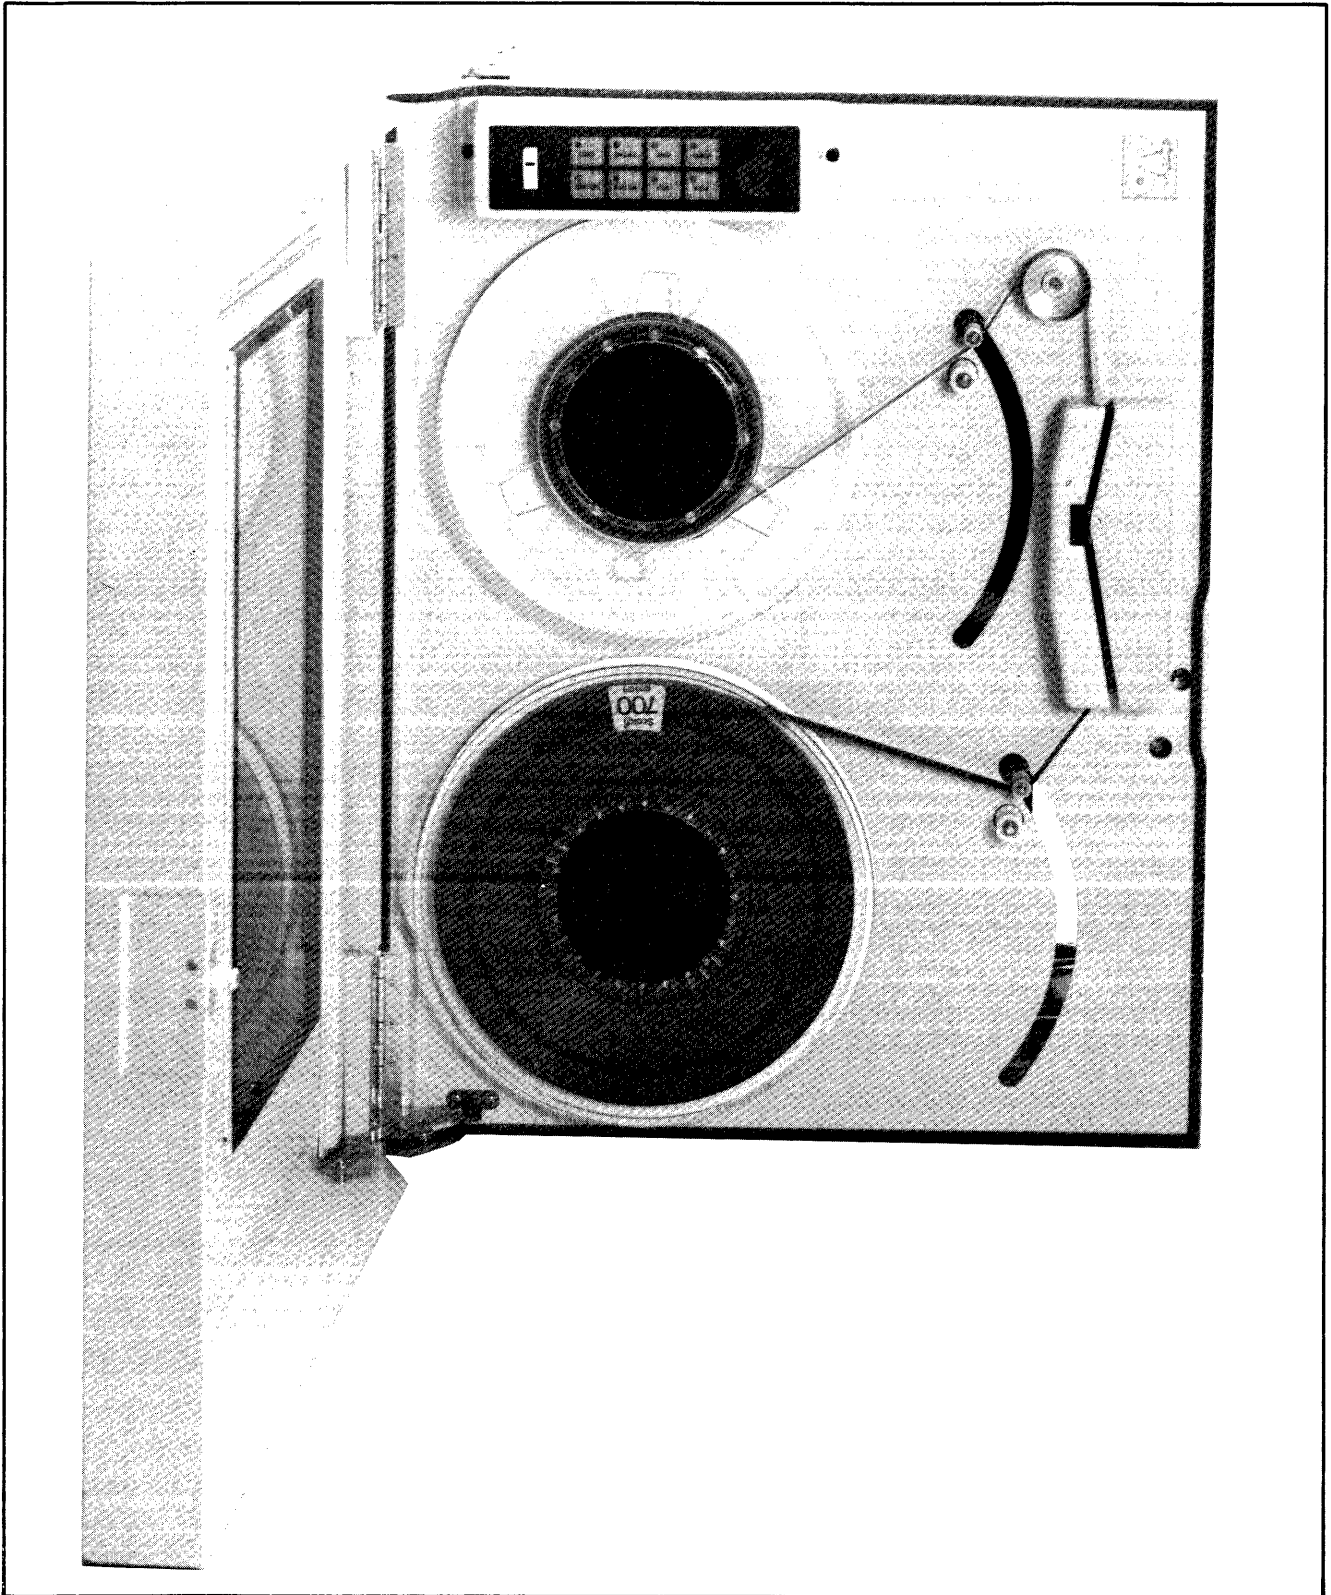

FIGURE 3-2. MAGNETIC TAPE PATH DURING THREADING
When loading tape on the Model 1050, the supply reel is mounted on the bottom hub, and the upper hub serves as the take-up reel. The maximum supply reel size is 10.5 inches in diameter. Recording can be accomplished only when the write-enable ring is installed in the supply reel. Figure 3-2 illustrates the required tape path.
- c. Thread the magnetic tape over the path shown in Figure 3-2. It will be necessary to push the flux gate to the left when routing the tape through the head assembly.